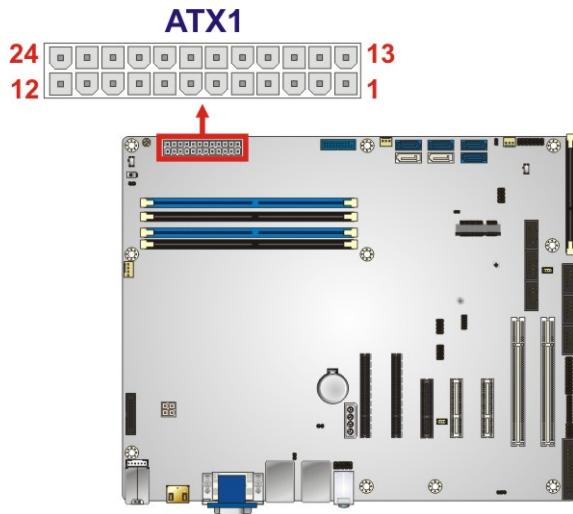

Figure 3-4: ATX Power Connector Location
- CN Location:** See **Figure 3-4**